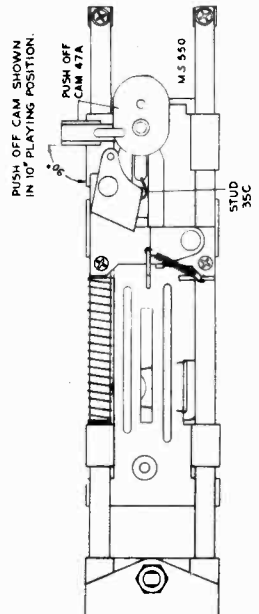

FIG. 10
- With the mechanism out of cycle, turn the push-off cam 47A so that its arm makes a 90° angle with the slide bars as shown in fig. 10. Make certain the large radius side of cam is toward the stud 35C when the support post is in the 12-inch position.